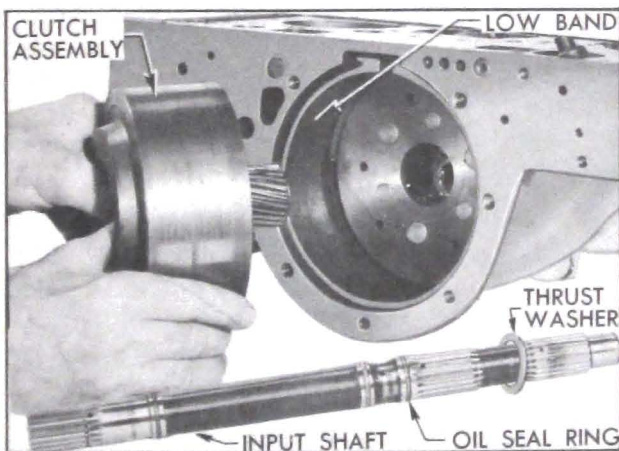

Figure 5-32—Removal of Clutch Assembly
6. Pull the input shaft and clutch hub front thrust washer from the clutch assembly, then remove the clutch assembly. See figure 5-32.